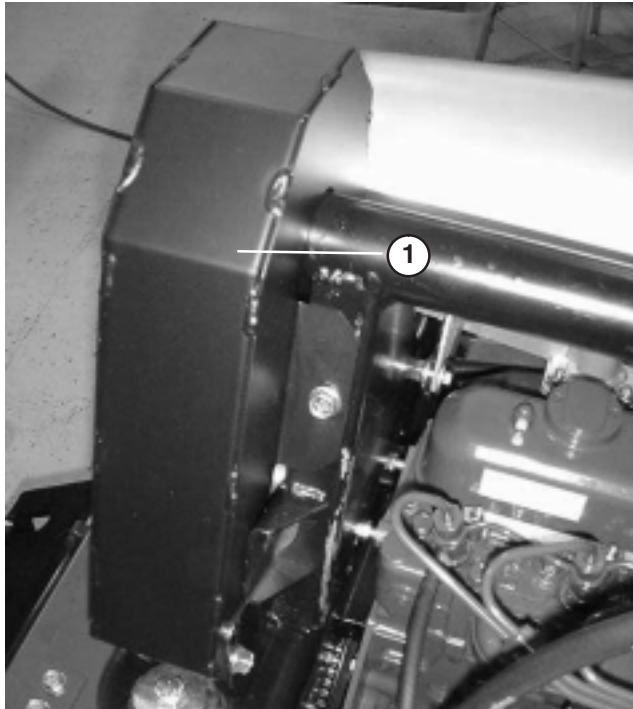

Figure 45
2. Remove capscrews (5) securing fan belt guard and remove guard (Fig. 45).
5. Install fan belt guard and secure with capscrews (Fig. 45). Close and latch hood.
4. Install fan belt guard and secure with capscrews (Fig. 45). Close and latch hood.